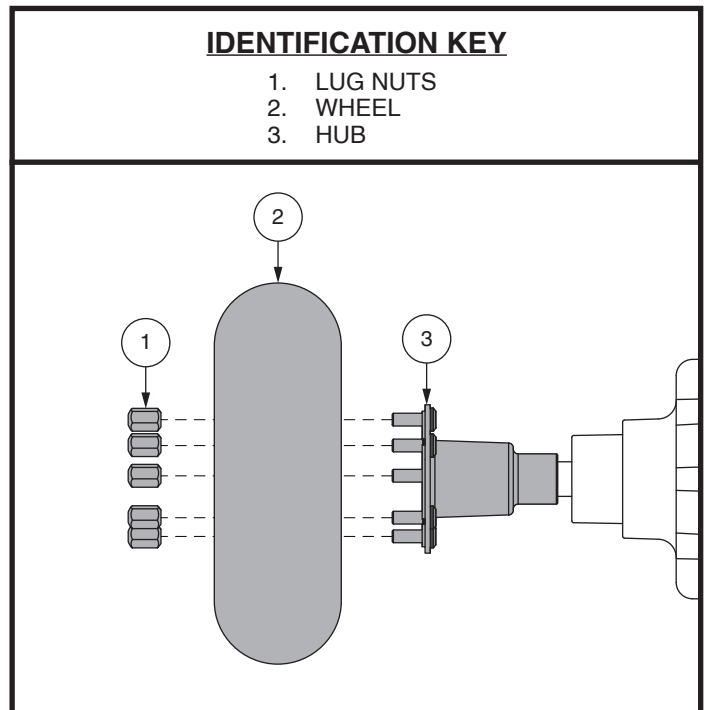

Figure 20. Wheel Replacement
4. Remove the lug nuts from the hub. **See figure 20.**